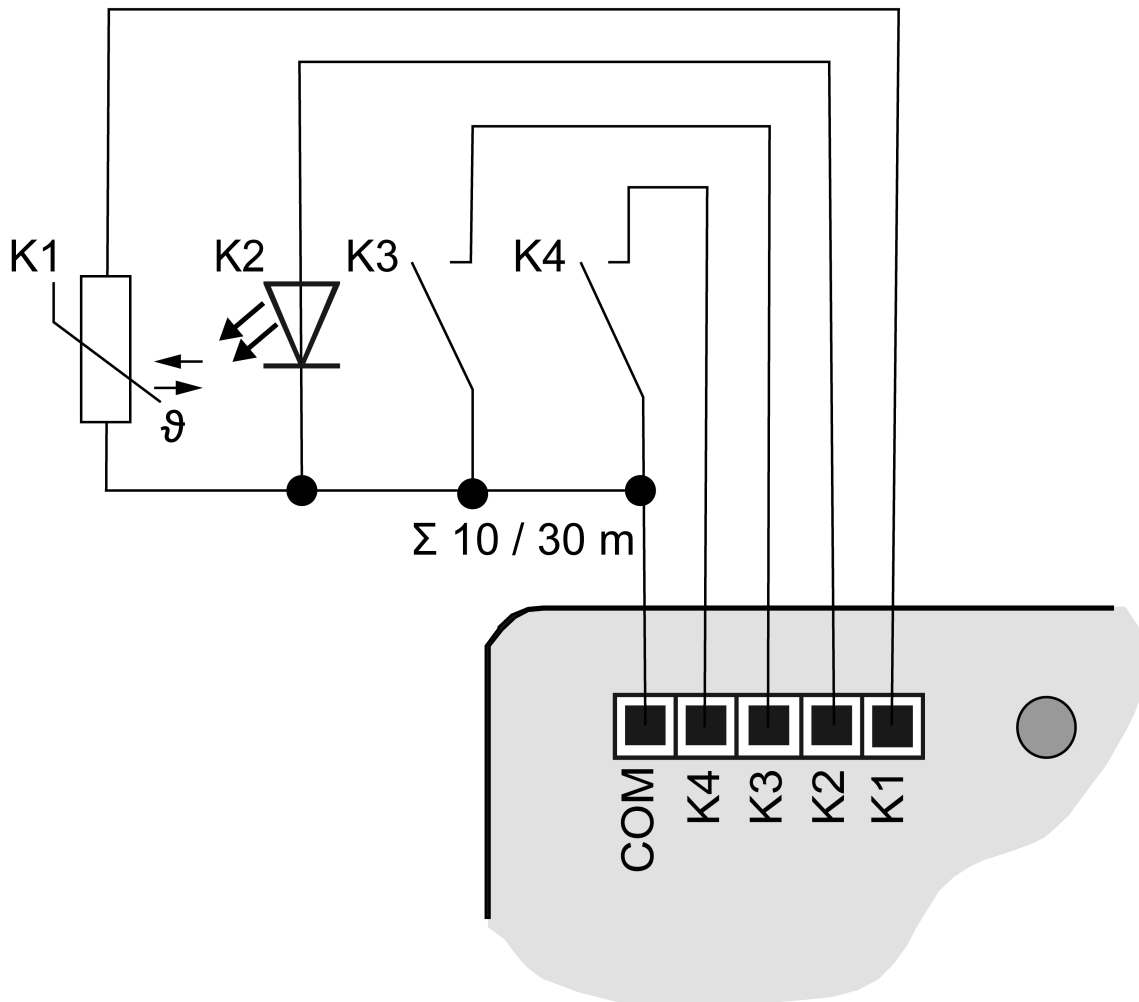
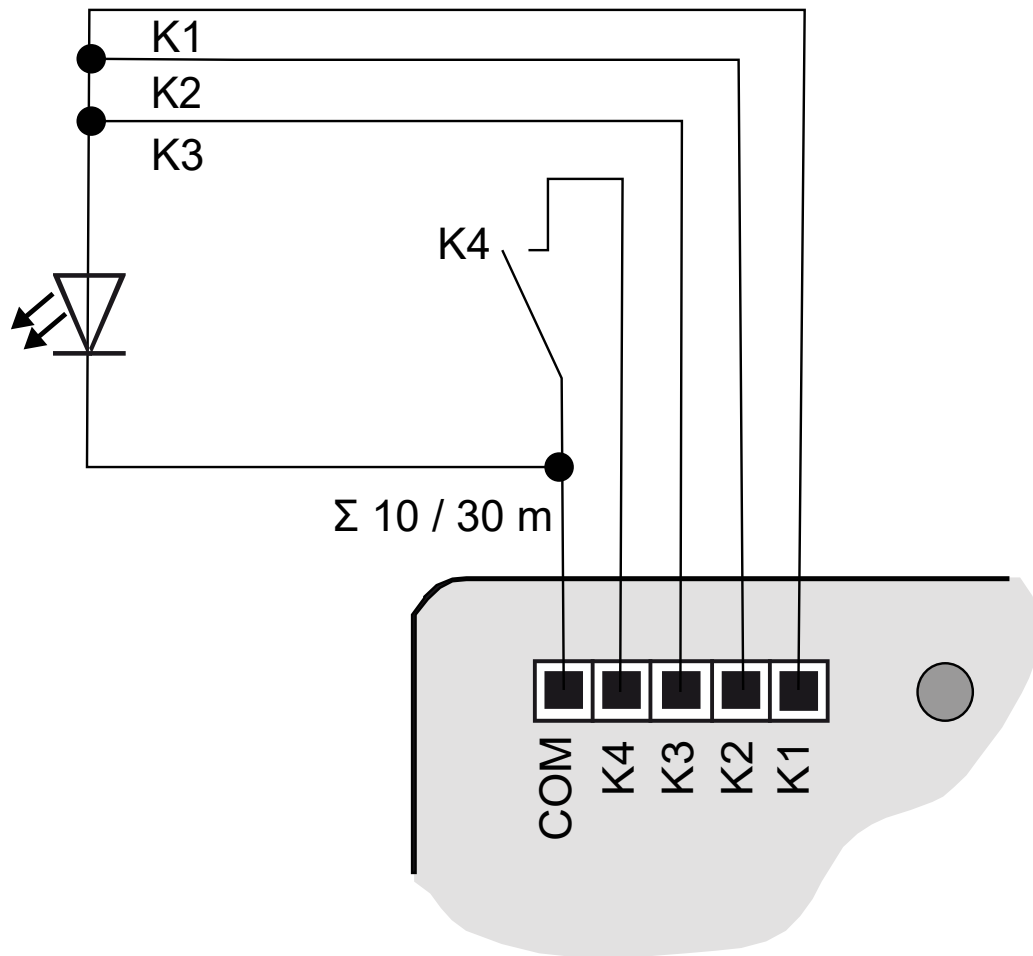

Figure 10: Connection example
Figure 11: Connection example with outputs switched in parallel
- Connect push-buttons, switches, contacts, LEDs or NTCs as shown in the connection examples using the enclosed connection cables ((see figure 10) and (see figure 11)). The connection examples show the use with inputs, outputs and sensors.
It is possible to switch outputs in parallel, for loads with high energy consumption. (see figure 11) and **K1-K3** are switched in parallel in this example.